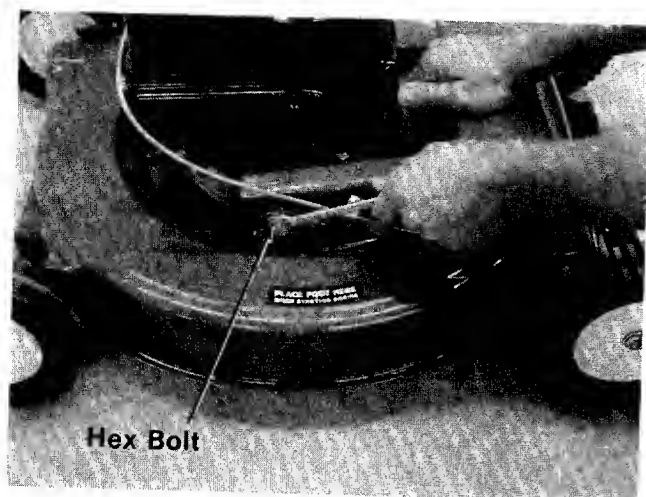

FIGURE 17.
3. Loosen (do not remove) the hex bolt on each side of the pinion pivot plate. See figure 17.